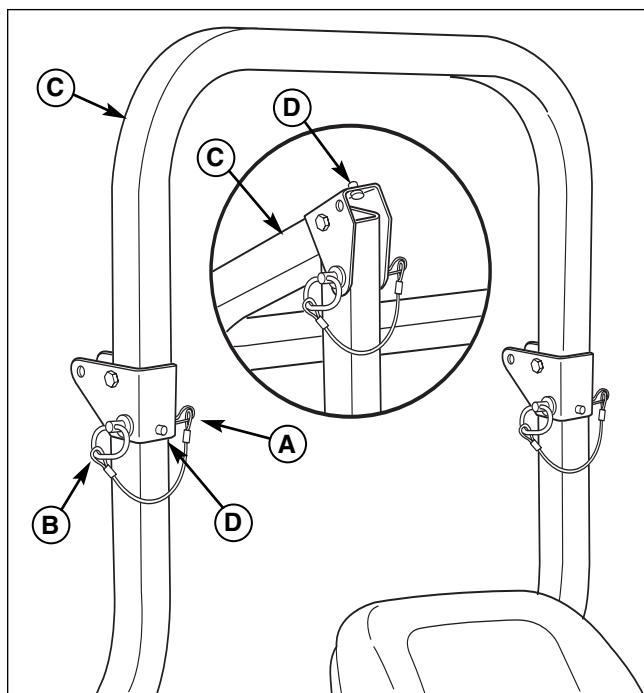

Figure 12. Raise & Lower the Roll Bar
1. Pull the hair pin clips (A, Figure 12) out of the retainer pins (B).
2. Push or pull the top of the roll bar (C) forward against the rubber stops (D) and remove the retainer pins (B).
3. Lower the roll bar and reinstall the retainer pins and hair pin clips to secure the roll bar in the down position (see insert, Figure 12).